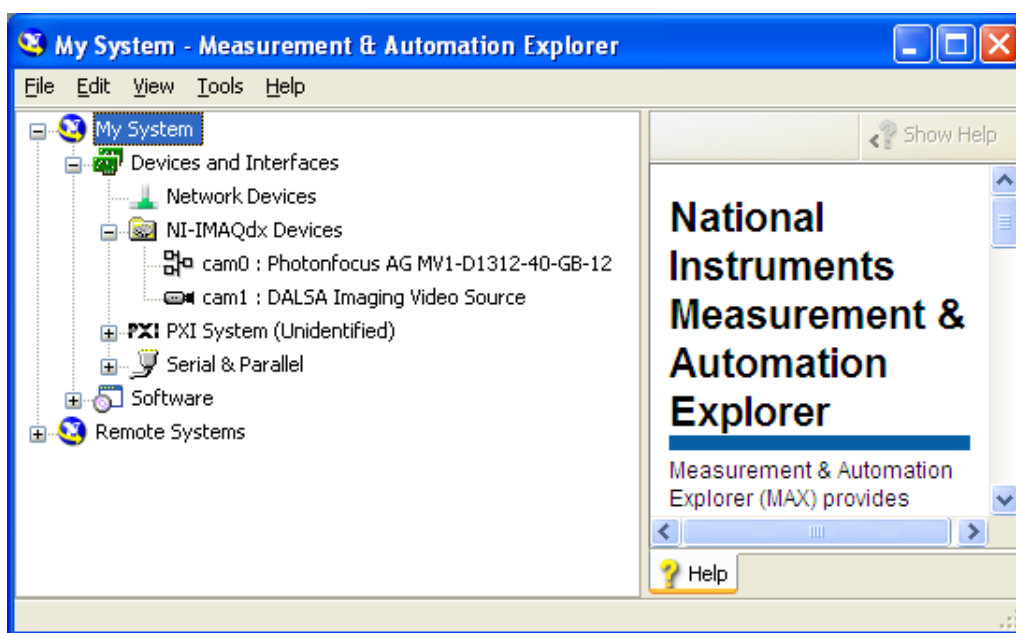
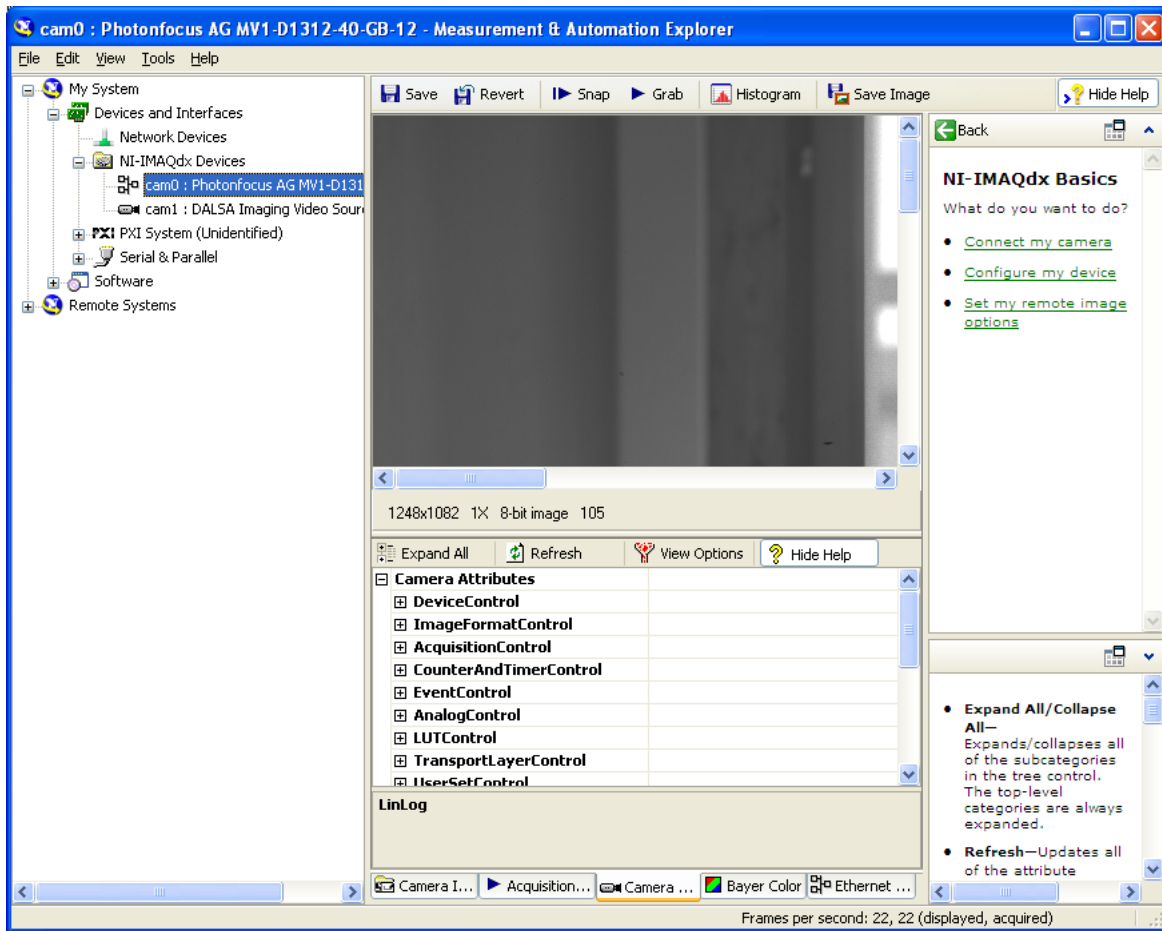

Figure 7.3: M&A GigEVision device list
Figure 7.4: M&A camera dialog
2. If the camera has a valid IP it should be listed in the list of NI-IMAQdx Devices (see Fig. 7.3). The GUI tools from NI provide only limited access to the camera's IP properties. The M&A tool will not find the camera if the camera's IP does not match the IP range of the network card. If the camera doesn't appear in the list, then it is recommended to install the Pleora eBUS package that can be downloaded from Photonfocus (see also the Photonfocus GigE Manual MAN049). In the GEVPlayer included in the eBUS package, a valid IP address can be given for unreachable cameras.
3. Clicking on the camera icon (cam0 in Fig. 7.3) opens the dialog to modify parameters and grab images (see Fig. 7.4). All camera parameters can be modified in the Camera Attributes tab. The parameter display can be configured in View Options. To modify the exposure time for example, expand the AcquisitionControl category and modify the ExposureTime value. Click on Save button to apply setting to camera.